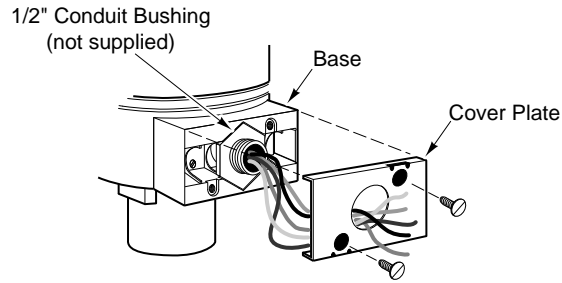
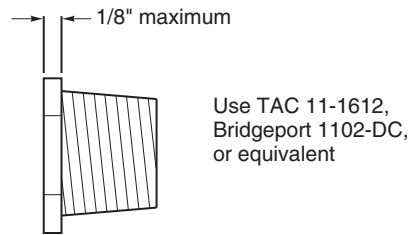

Figure-11 Conduit Bushing and Cover Plate Installation.
Figure-12 1/2" Conduit Bushing.
2. Slip the leads through a standard 1/2" conduit bushing (not supplied) and the knockout hole in the cover plate. Refer to Figure-11 and Figure-12 .
Note: As shown in Figure-11 , the hole in the cover plate of the actuator conduit housing is sized to accept both British standard M20 (20 mm) conduit connectors and 20 mm-to-PG16 adaptors for use with DIN PG16 connectors. (Follow the steps for installing the conduit box to the actuator.)